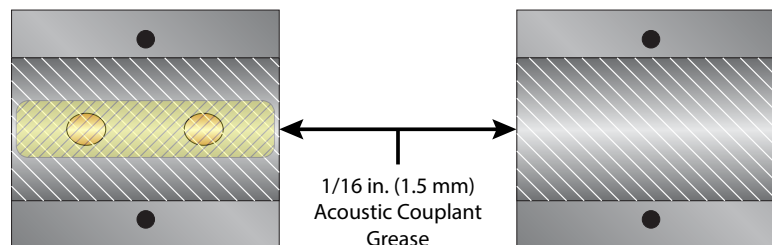

Figure 8: Application of acoustic couplant
2. Apply a thin coating of acoustic coupling grease to the half of the housing where the transducer will contact the pipe. See Figure 8.